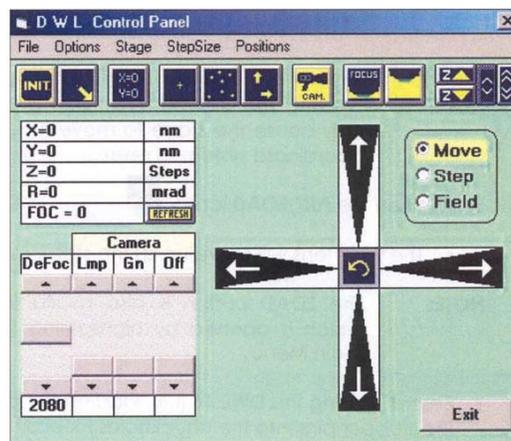

Figure 9. Control Panel menu (Princeton University)
- Open the Control Panel menu by clicking the appropriate icon shown in Figure 8, above. Figure 9 is a screen capture of the Control Panel menu.